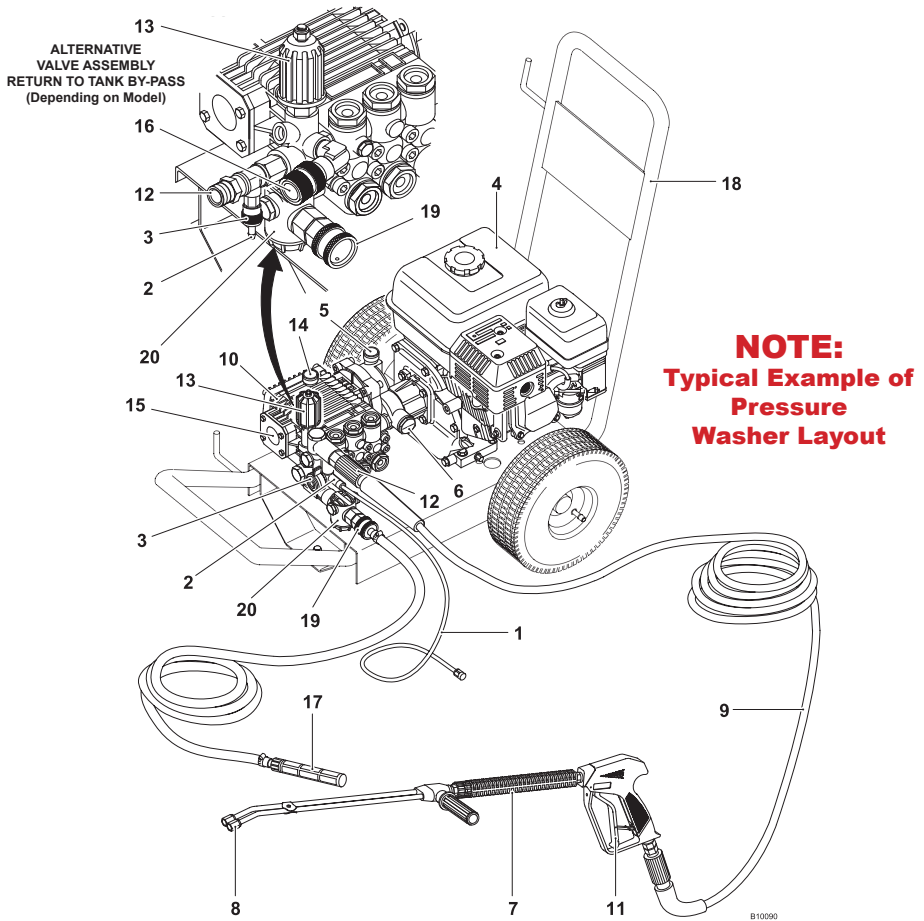

Fig 2 Description of main features
4. Description of Main Features (fig 2)
- 5.5 Connect the water return line to its connector and place the other end in the water supply container. (Bypass to tank models only) (Fig 2 item 16 & Fig 4).
6.2.3 Squeeze the trigger to start the high-pressure jet, proceed to wash the object. Adjust the working pressure by turning the pressure regulator knob + or - to suit the application (fig 2, item 13). Never direct the high-pressure stream at the engine or pump as this could cause irreparable damage.
Attach the detergent induction pipe to the power washer, (fig 2, item 1) placing the opposite filter end into the detergent container. Select the low pressure setting on the lance, (see appendix 1 for details of your lance) and spray the water/detergent mixture onto the object being cleaned. Leave the detergent for the period recommended by the chemical manufacturer allowing it time to work, washing off with clean water. The volume of detergent used can be controlled by means of the regulator on the suction valve (see fig 2. item 3).